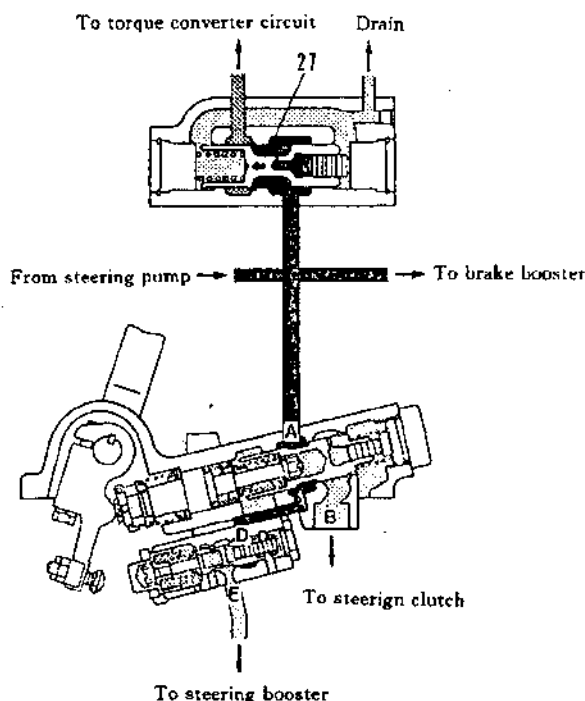

Fig. 2-71
(1) When the steering and brake valves are in neutral;
The oil from the steering pump enters main regulator valve (27) and port A and D of the steering control valve. Since the circuit to the steering clutch and brake booster are closed, the oil pressure in the circuit rises. As a result, main regulator valve (27) opens and the oil flows to the torque converter circuit. If the steering lever is not operated, the oil will continuously be relieved to keep the clutch applied and the brake released. The oil pressure in the circuit in this state is 2.16MPa (as shown in Fig. 2-71).